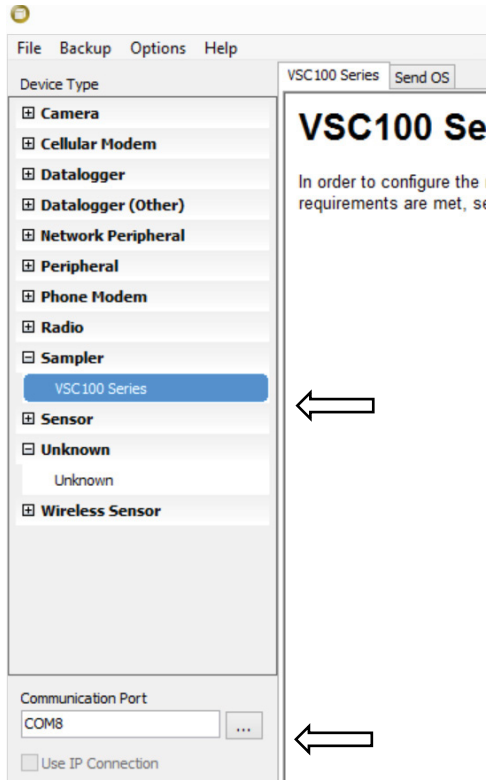

FIGURE 6-2. Device Configuration VSC100
2. Open *DevConfig*. Select **VSC100 Series** under **Sampler**. Click **Communication Port** and select the correct **Communications Port**. Click **Connect** (FIGURE 6-2).